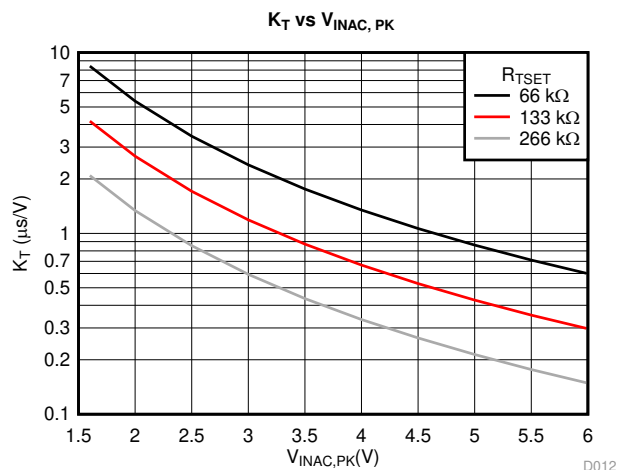

Figure 16. K_T vs Peak Voltage
Gate-drive on-time varies proportionately with the error-amplifier output voltage (V_{COMP}) and inversely proportional to the squared value of the peak of the rectified input voltage sensed through VINAC pin as stated by equation (3). In equation (3) it is shown that the on-time is inversely proportional to the value of resistor R_{TSET} connected between pin TSET and pin AGND. In order to calculate on-time, Equation (4) can be used. Parameter K_T is function of the rectified peak input voltage sensed by pin VINAC as reported in graph of Figure 16. In this graph 3 curves are reported for three different values of R_{TSET} . Two values of parameter K_T are reported in the electrical specs table for two values of VINAC: K_{TL} and K_{TH} corresponding at the $V_{INAC} = 1.6V$ and $V_{INAC} = 5V$ and $R_{TSET} = 133k\Omega$. Because voltage on VINAC is proportional to the line rectified voltage, for t_{ON} calculation purposes we refer to the peak value of this voltage that is obtained through an internal peak detect. K_T is inversely proportional to the squared value of VINAC peak value so it is the t_{ON} time realizing the so called voltage feed-forward compensation. The Voltage Feed-forward function modifies the MOSFET on time according to line voltage so, ideally output power delivered does not change if line voltage changes. When operating in single phase mode K_T is called K_{TS} and its value is doubled.
Figure 16 shows the values of K_T versus the peak voltage value on VINAC pin.